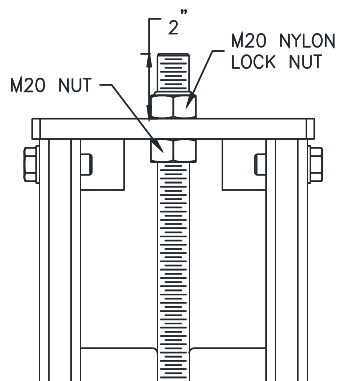

Fig 14 – Lock Ladder Assembly
- 21) Adjust the lock ladder so about 2" remains sticking out of the top. Tighten both bolts as shown in **Fig 14** when ladder is properly orientated. Note: When adjusting the lock ladder, it may be necessary to loosen or remove the bolts holding the top cap to the column so the bottom nut can be adjusted.